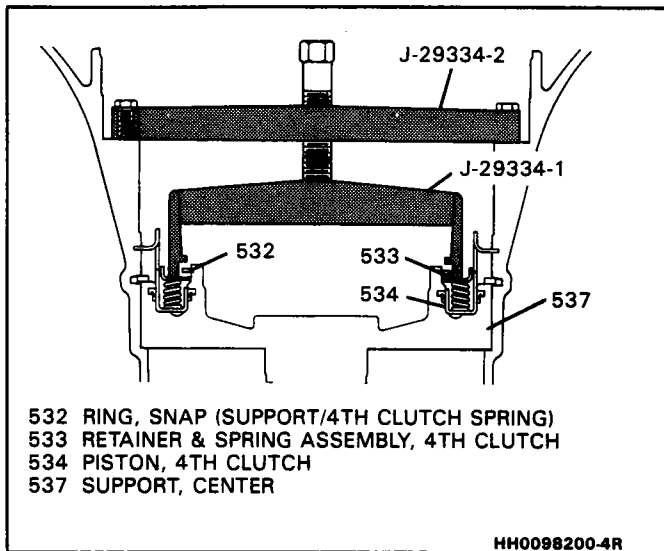

Figure 85 Installing Fourth Clutch Snap Ring
- Snap ring (532) for damage.
- Fourth clutch piston (534) for:
- Release springs and retainer (533) for:
**Assemble (Figure 85)**